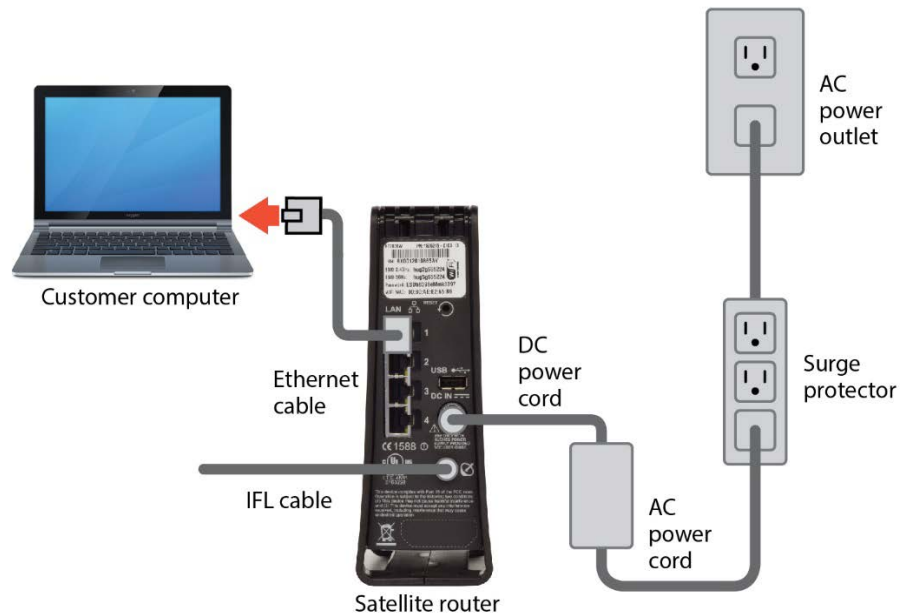

Figure 37: Connecting the Ethernet cable to the customer's computer
3. The Welcome to HughesNet! screen appears as shown in Figure 37.